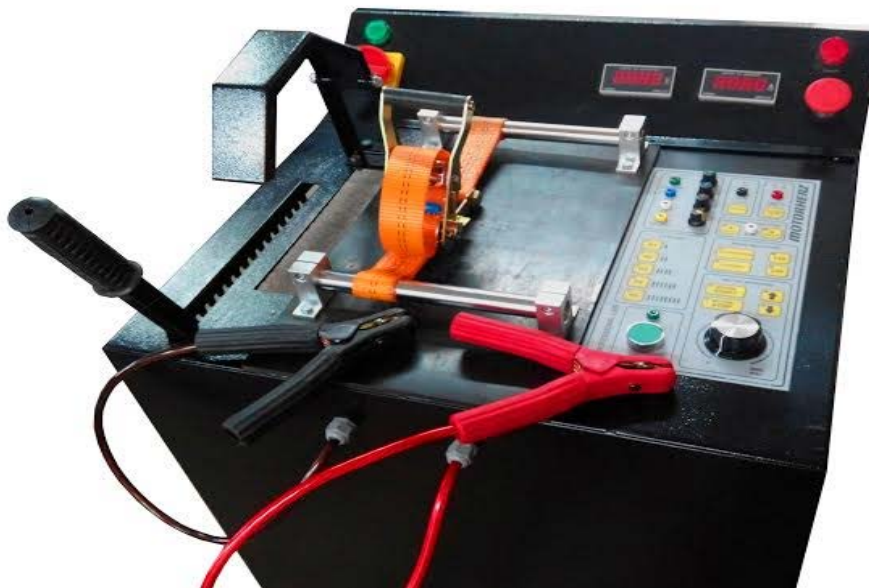

Figure 1.
1.4.1. The test bench has a block structure and is composed of (Figure 1):
1.4.6. Instrument panel (Figure 1) is angled 35 degrees to upper surface of the housing. On the panel are placed: